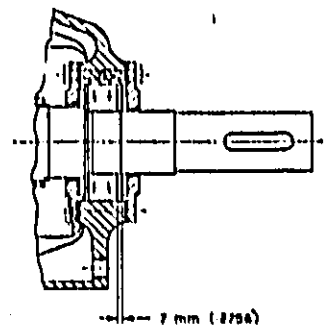

FIG. 2
- 4.8 Slide bearing cover 222 over shaft at the driven end and install bearing housing 210 to cover 1. Install ball bearing 230. NOTE: The bearing 230 must be positioned in the centre of the bearing chamber, leaving equal clearance between bearing cover 221 and 222, 7 mm (0.2756 inches) from machined face - see figure 2, and complete assembly with the mounting of bearing covers 221 and 222 to the bearing housing 210.
Figure 2—shows a method where partial recirculation is employed. The service liquid enters the pump, is discharged to the recirculation tank where some heat may be dissipated by radiation. Meanwhile an additional controlled flow of cooled service liquid is added. A similar amount of service liquid is over-flowed to maintain the working level in the same horizontal plane as the pump shaft centre line.